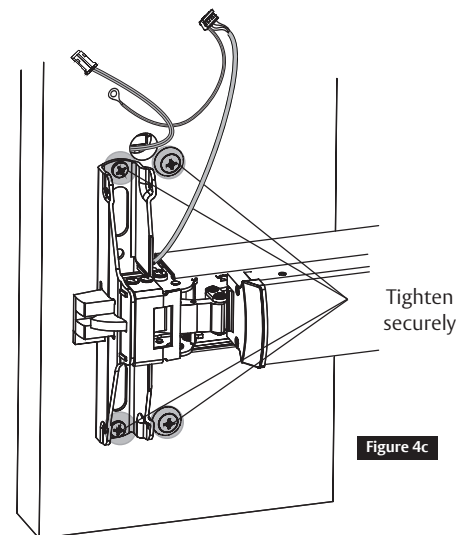

Figure 4c
4. Tighten all (4) screws. (Figure 4c)